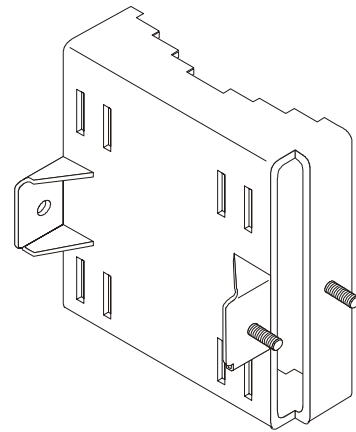

Figure B-2. Pivoting Bracket
- One pivoting bracket (see Figure B-2)